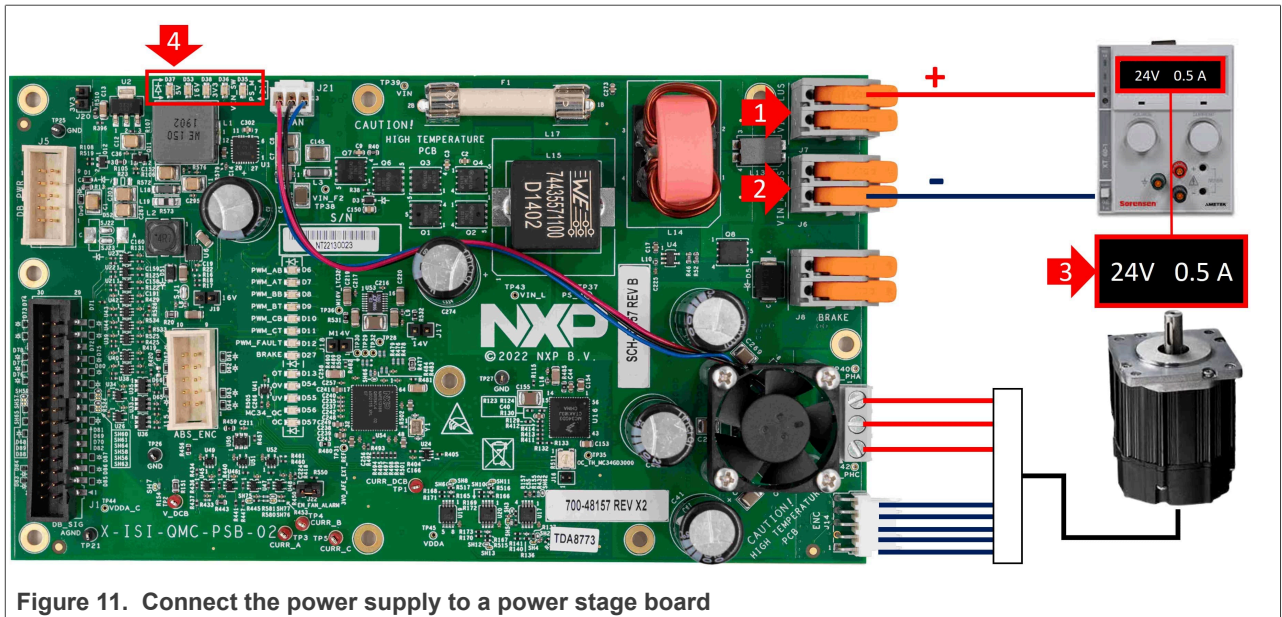

Figure 11. Connect the power supply to a power stage board
3. Connect the power supply to the power stage boards as shown in Figure 11:
- (1) Connect the positive wire of the power supply to any of the two pins of the *J7* connector of all connected power stage boards. See Figure 11;
- (2) Connect the ground wire of the power supply to any of the two pins of the *J6* connector of all connected power stage boards. See Figure 11;
- (3) Set the maximum output voltage of the power supply unit to 24 V and the maximum current output to 0.5 A, then turn on the power supply unit;
- (4) If power stage boards are correctly supplied, the status LEDs of the power stage boards should turn green and fans should start spinning. The digital board and the daughter card should turn on as well if the power stage boards are correctly connected to the digital board;